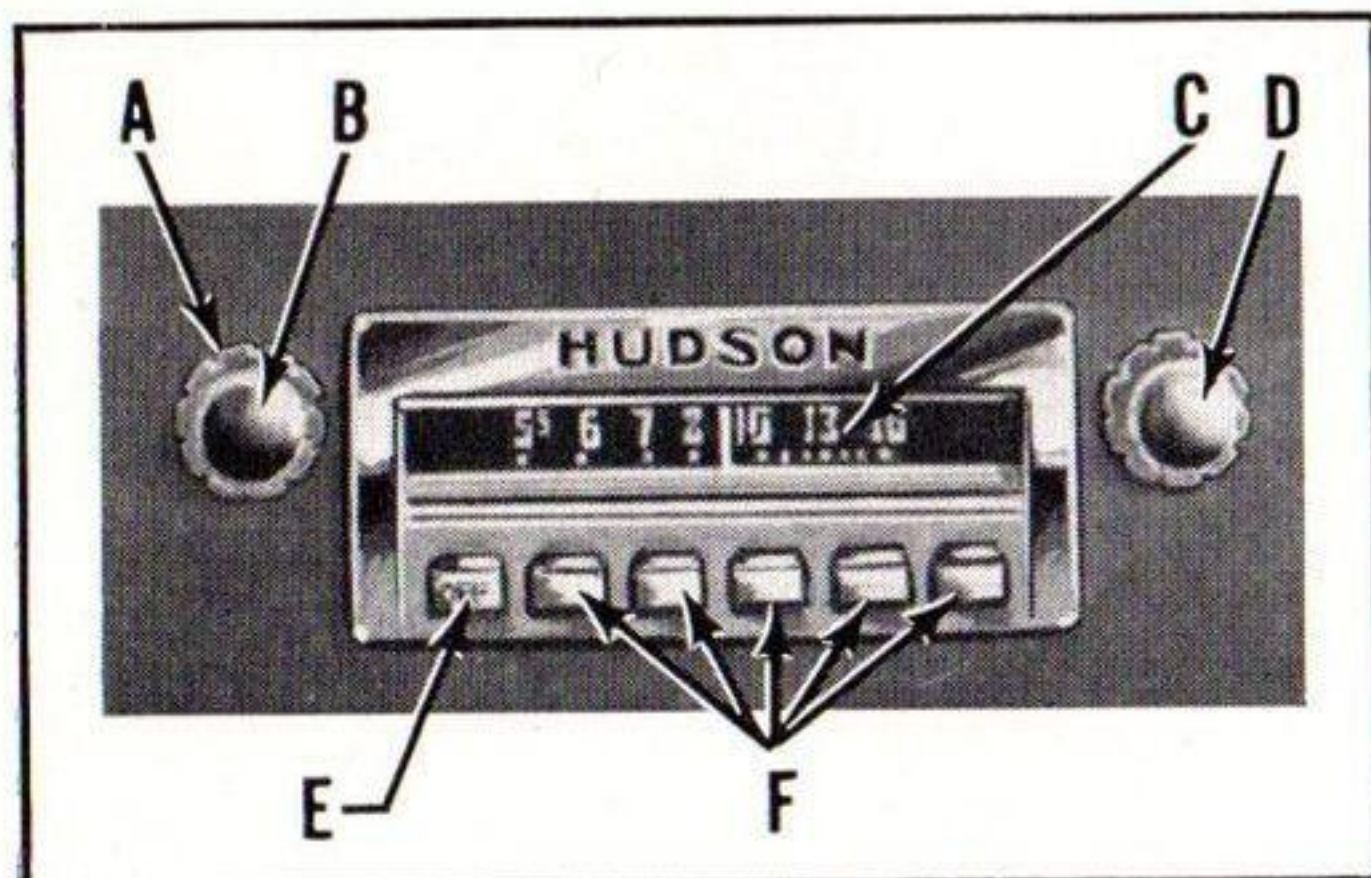

Figure 50
OFF-ON AND VOLUME CONTROL—To turn the receiver on, press in any of the push buttons except the one at the extreme left. This will automatically bring in the station for which the button has been set. To regulate the volume, turn volume control knob (B Figure 50) clockwise or counter-clockwise. To turn off the receiver, press in the button (E) at the extreme left.